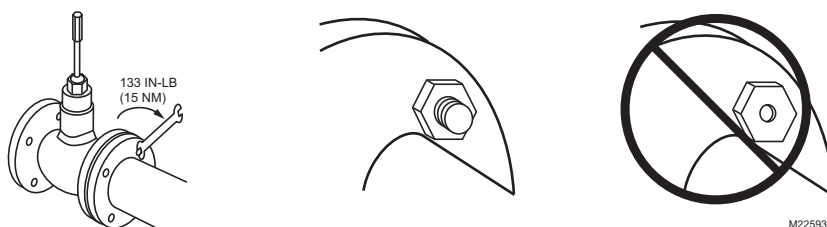
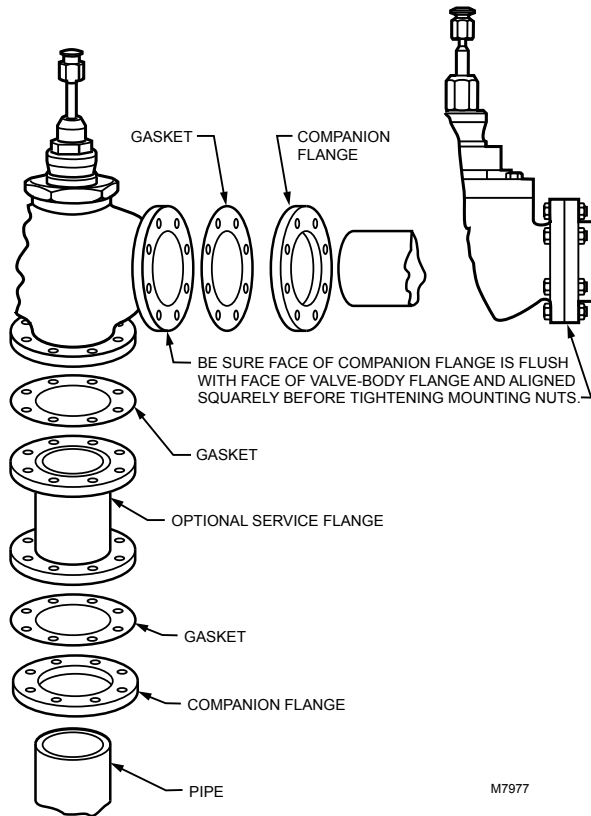

Fig. 11. Basic proper bolt length.
Fig. 12. Flanged valve body installation.
See Fig. 12 for typical installation.
7. Use mounting bolts long enough so the nuts can use the full length of the nut threads. (See Fig. 11.) Use bolts 1/8 in. smaller than the diameter of the bolt hole to allow clearance for installing. (See Fig. 12.)